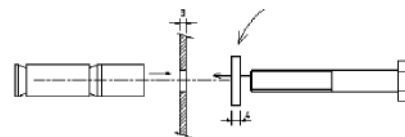

Figure 3
8. Secure the safe using the fixing screws supplied. Do this as follows: unscrew the bolt from the sleeve, slide the washer over the fixing screw then slide the screw and washer through the hole provided in the safe (back or bottom). Screw the metal plug and sleeve back on then position the safe so that the sleeves fully enter the holes in the wall or floor. Using a socket wrench, fully tighten the screws to secure the safe (see figure 3 & 4).